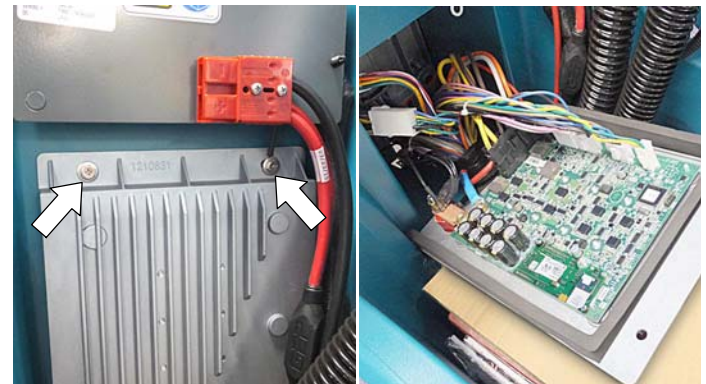

Fig. 3
5. Remove the top two screws from the heat-sink panel and carefully lower panel as shown (Figure 3). Place a piece of cardboard over the battery terminals to prevent contact with metal heat-sink panel.